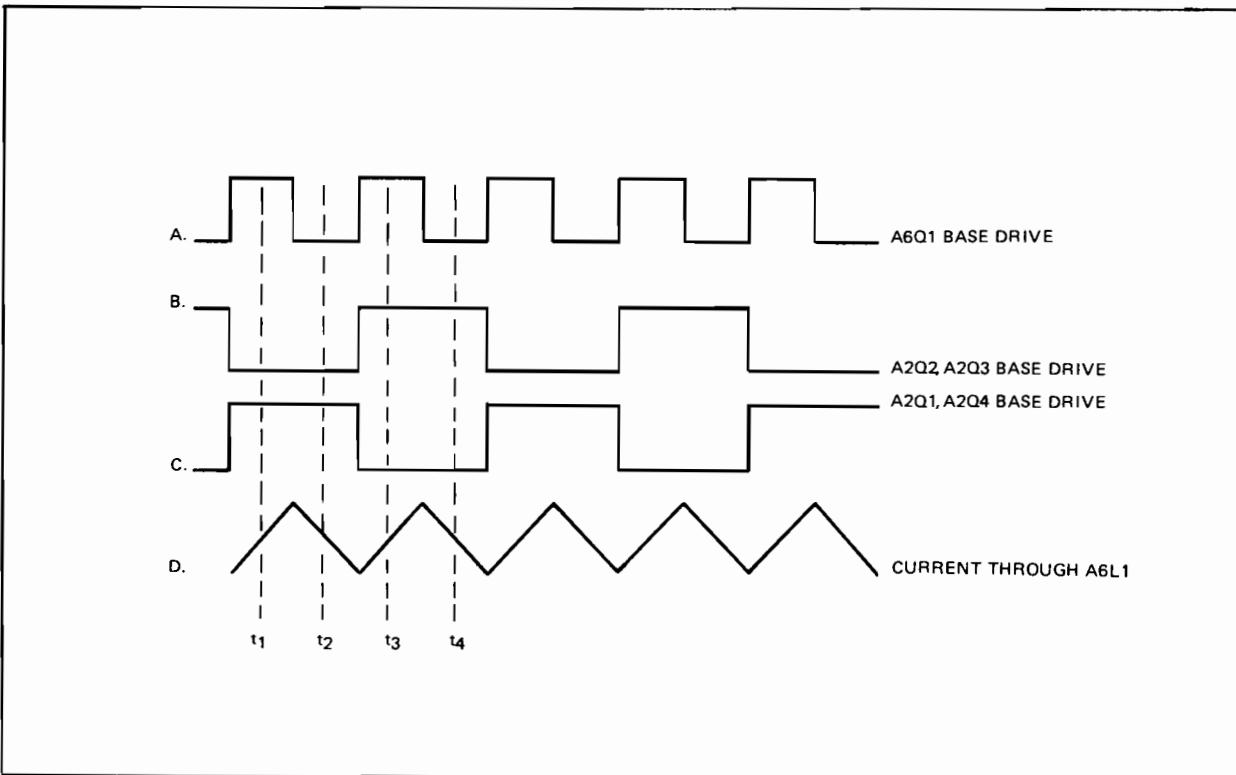

Figure 3-10. Timing Waveforms
The remainder of this section covers the interaction of the Inverter and the preregulator boards at four time intervals (see Figure 3-10). It also covers the Inverter and the preregulator boards in detail (duty cycle control).
a. Time T1 (see Figure 3-10).
b. Time T2 (see Figure 3-10).
c. Time T3 (see Figure 3-10).
d. Time T4 (see' Figure 3-10).